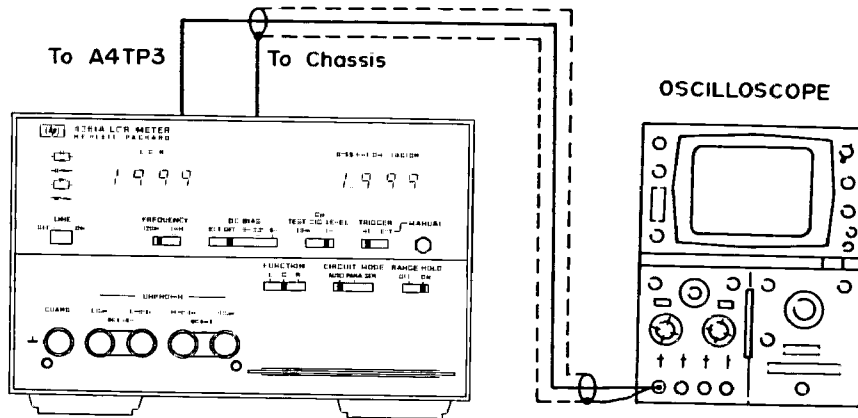

Figure 5-2. A4 Board Offset Adjustment.
- a. Connect BNC to alligator clip cable between oscilloscope and 4261A A4TP3 and 4261A chassis (see Figure 5-2).